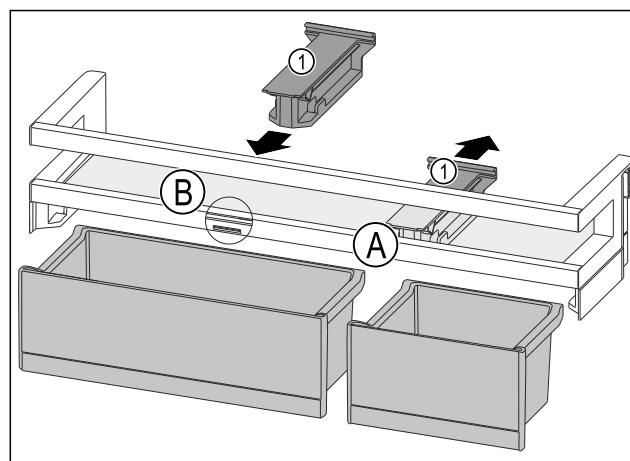

Fig. 107
- ▶ Take off the holding part Fig. 107 (1) in position Fig. 107 (A) backwards.
- ▶ Insert the holding part Fig. 107 (1) in position Fig. 107 (B).